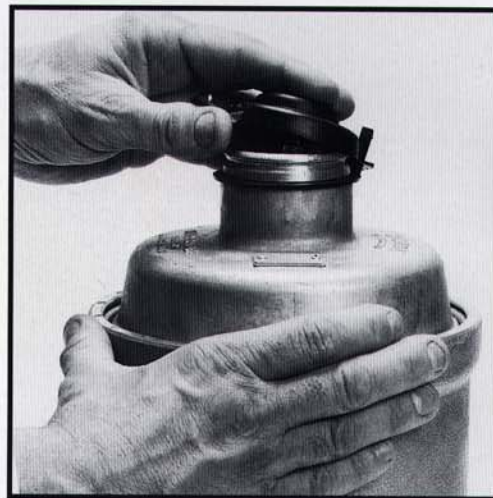
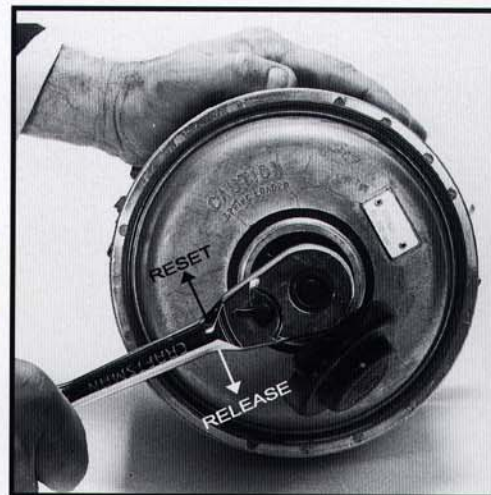

Fig. 1
Fig. 2
(1) RECOMMENDED INSPECTION POINTS
- (A) The plastic **END CAP** requires no positioning or maintenance, but must be snapped tightly in place. Inspect the cap for damage and remove the **END CAP** (Fig. 1) and check to ensure that the **RELEASE BOLT** (Fig. 2) is tightened to 30-35 lbs. ft. torque. The release bolt must be properly installed for the brake to function properly. Be sure to replace the **END CAP** (Fig. 3).
- (C) Check to ensure the **SERVICE CHAMBER CLAMP RING** is evenly seated and the clamp band bolt nuts are torqued to 25-30 lbs. ft.
- (D) Inspect air lines, hoses, and fittings attached to the chamber. Replace any damaged or leaking parts. MGM recommends the fittings be tightened to 25 lbs. ft. torque into the chamber air inlet ports.
- (E) Check the tightness of the spanner (locking) nut. Apply 90 psi air pressure to the "Service Chamber" port and tighten the spanner nut to 130-150 lbs. ft. torque.
(2) MANUAL RELEASE
- (b) Remove the plastic end cap from the spring chamber (Fig. 1). Manually release the spring brake by turning the release bolt counterclockwise; using a 3/4 inch deep well socket wrench, until the bolt is completely removed from the unit (Fig. 2).
- (k) With air applied to the spring brake section (85-100 psi), install the release bolt washer (aluminum) and release bolt. Screw bolt in (clockwise) until it contacts the piston insert. Tighten bolt to 30-35 lbs. ft. torque. **DO NOT USE AN IMPACT WRENCH**. Release air pressure from the spring chamber (Fig. 2).